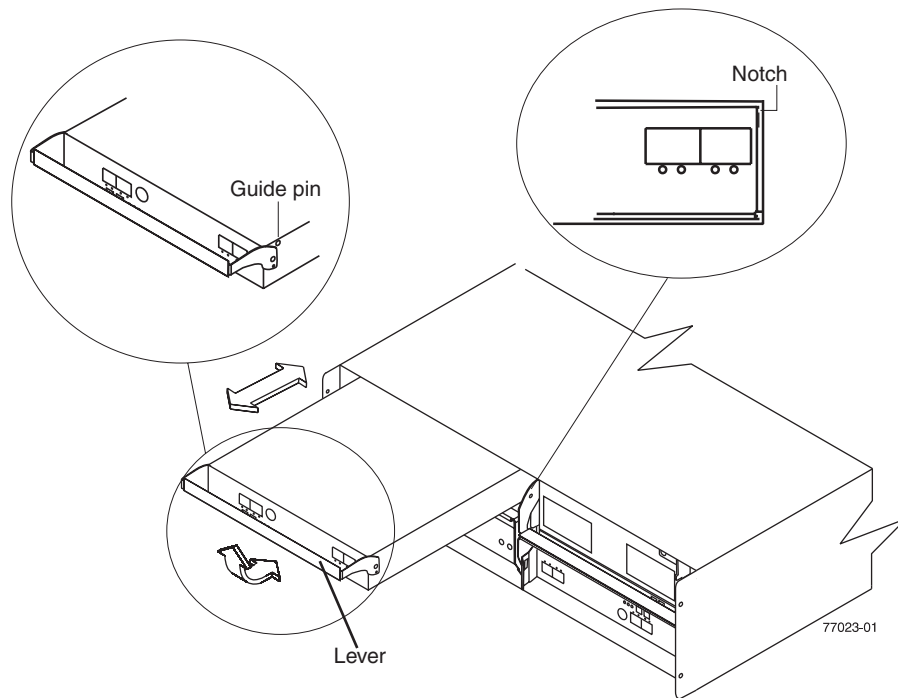

Figure 19. Removing and replacing a controller
1. Slide one controller into the empty slot in the storage subsystem. Be sure that the lever is pulled straight out as you slide the controller in, as shown in Figure 19 on page 39.